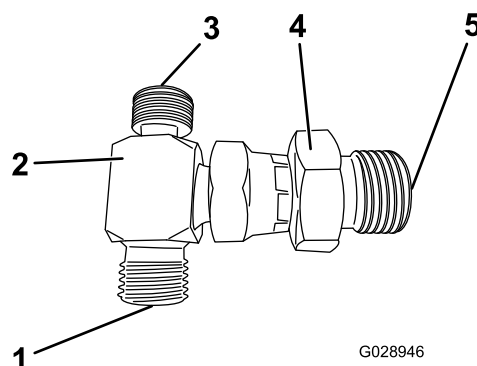
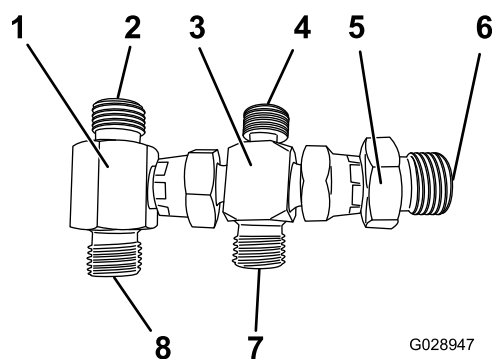

Figure 1
Figure 2
2. Assemble the front tee assemblies as shown in Figure 1 or Figure 2.
8. Attach the hoses removed in step 4 to the front tee assembly in the same locations they were arranged on the manifold (Figure 1 or Figure 2).